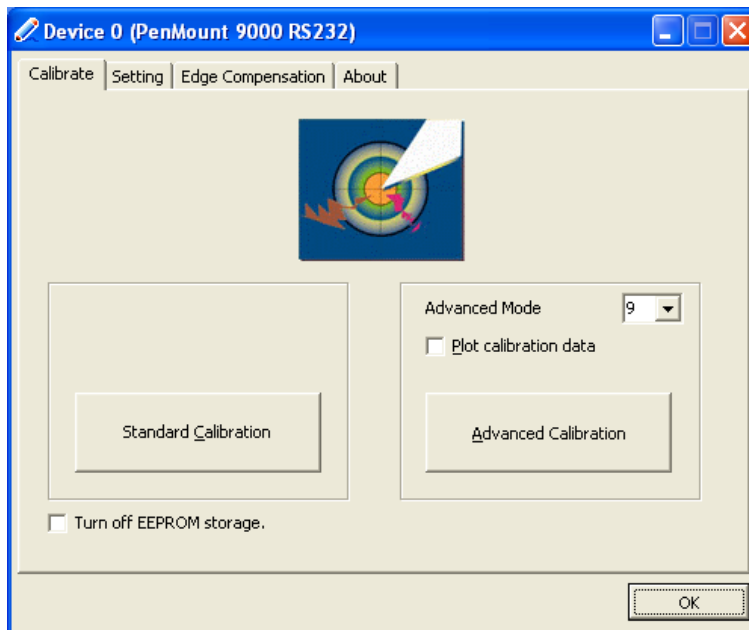

Figure 6-26: Calibration Initiation Screen
Step 7: The calibration initiation screen in **Figure 6-26** appears.
Step 8: Select the **Standard Calibration** button as shown in **Figure 6-26**.